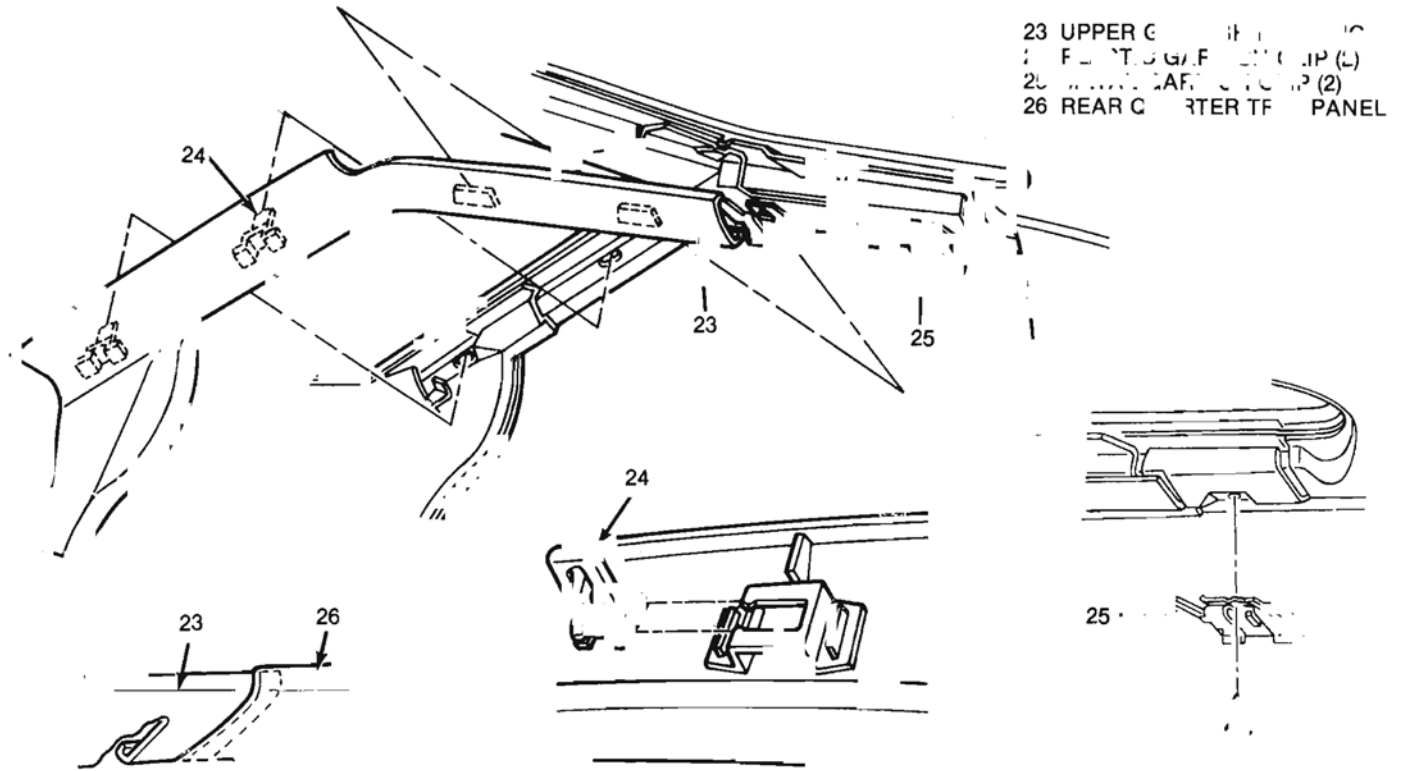

Fig. 8-Upper Garnish Molding
**Remove or Disconnect (Figure 8)**
Install or Connect (Figure 8)